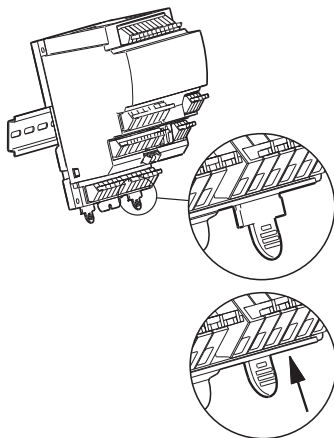

Fig. 5 Mounting on DIN rail
2. Push the locking tabs (pos. 1) into the module as shown in fig. 5.